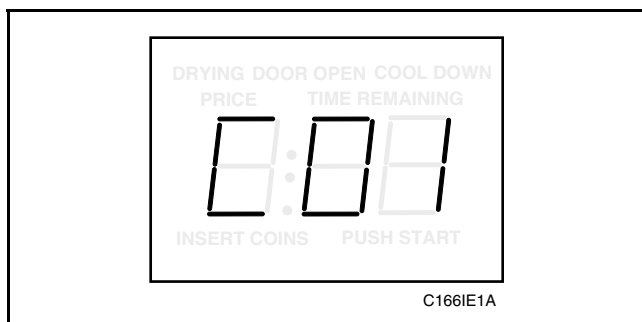

Figure 68
3. Press the LOW TEMP (+) pad **or** the NO HEAT (-) pad to scroll through the programmable options until “COI” appears in the VFD, *Figure 68*.